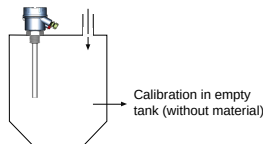

Figure 11: Calibration without Material
- Before Installing the device, ensure that the calibration process has been already carried out in safe area (Zone 2) then install the instrument in hazardous area as shown in Figure 11
- Dip the Casper into test tank as shown in Figure 11.